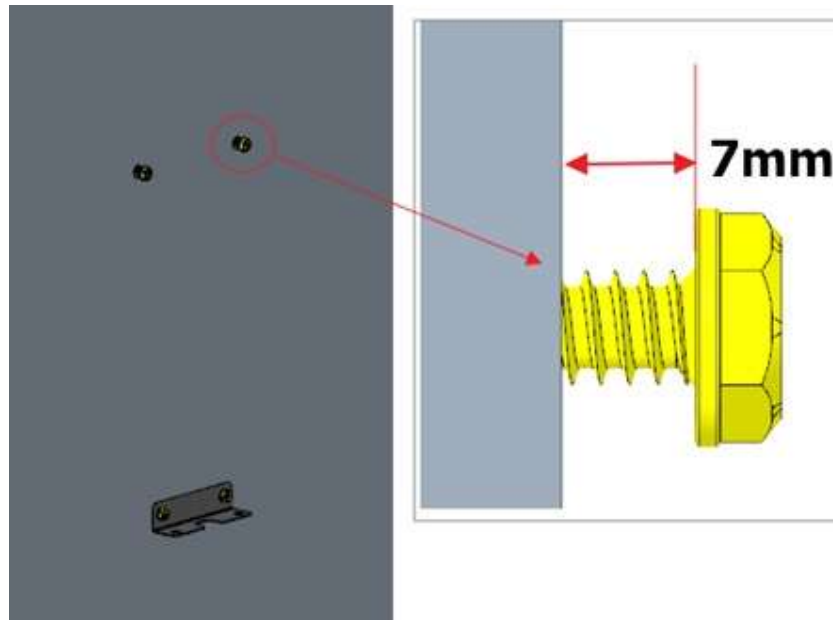

Figure A-13 Fixed Socket and Socket holder bracket
3. Use a $\Phi 8$ drill bit for the wall to open 4 holes with a depth of 70mm, install an $\Phi 8 \times 60$ expansion tube, and use two M6 self-tapping screws to fasten the wall mount to the two holes under the wall, and directly tighten the two holes on the top. Insert two M6 self-tapping screws. Note that the screw head protruding height is 7mm, as shown in Figure A-13.